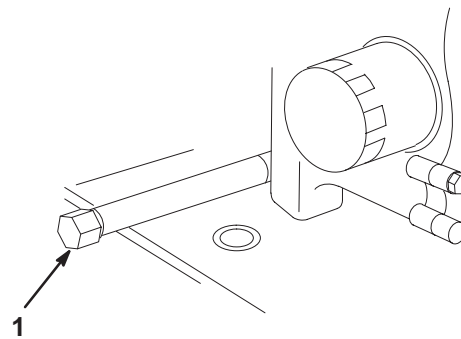

Figure 27
3. Place a pan below the oil drain. Remove the oil drain cap (Fig. 27).